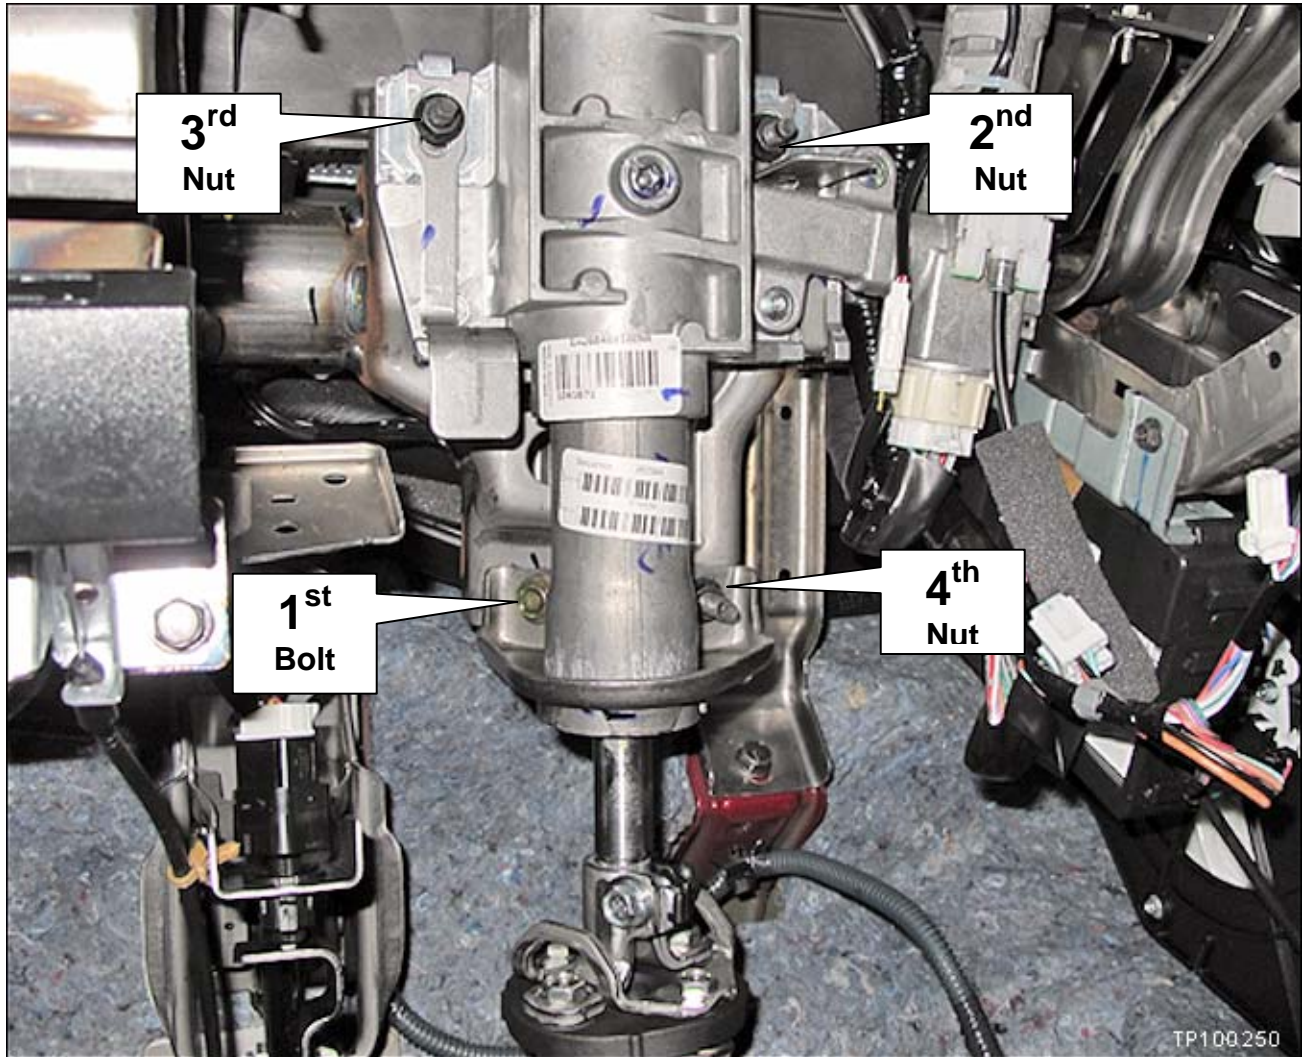

Figure 5
6. Perform a torque check on the steering column fasteners (3 nuts and 1 bolt) shown in Figure 5.
- c. Torque the nuts and bolt in the order shown in Figure 5.